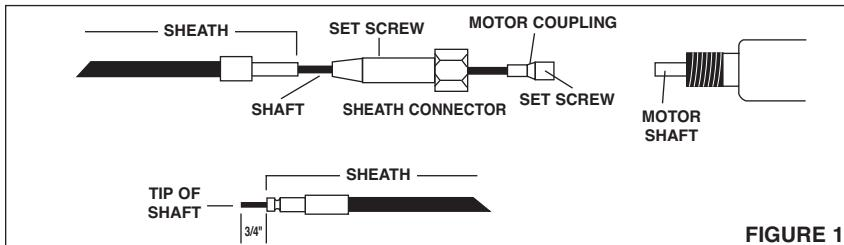

FIGURE 1
1. Remove the sheath connector from the motor (see figure 1). This has a LEFT hand thread and must be turned **CLOCKWISE** to remove.